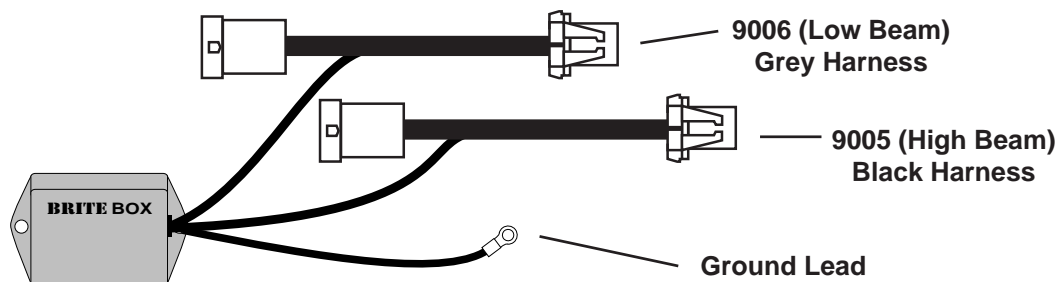

Figure 1
STEP 2: Find a suitable location to mount Brite Box on inner fender of vehicle near battery. Make sure the low and high beam harnesses from Brite Box (see figure 1) can be run to the vehicle's headlight wires. The black wire of Brite Box must be able to reach a solid chassis ground.